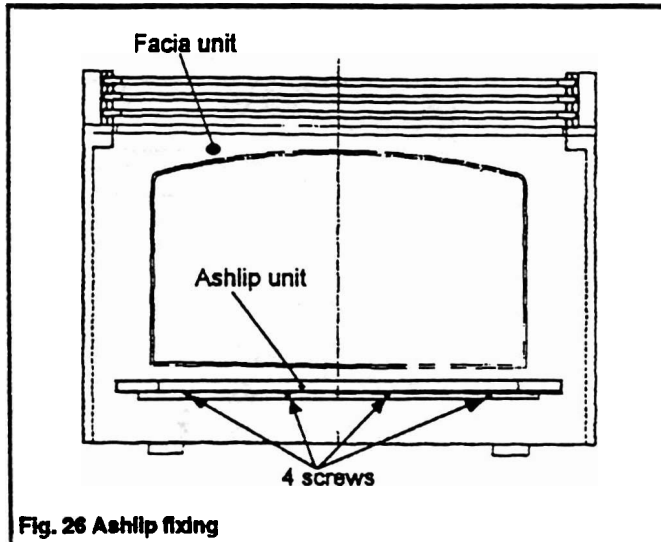

Fig. 26 Ashlip fixing
- 18.1 Fit the ashlip to the fascia unit with 4 screws (see figure 26).